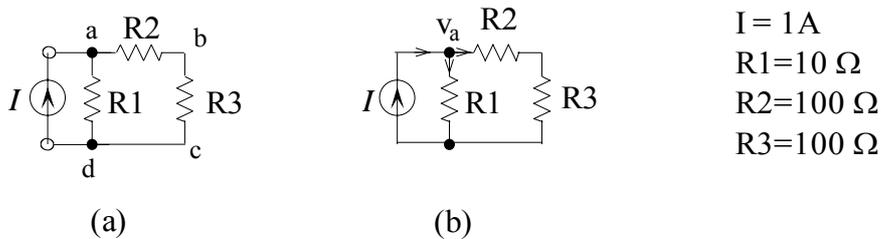

Figure 2.7 Node analysis
Consider the circuit in Figure 2.5(a), with a current source connected across terminals  $a'$ - $d'$ . This circuit is given in Figure 2.7(a) with numerical values assigned to circuit parameters.
2. Define the node voltage  $v_a$  as the potential at node  $a$  minus the potential at node  $d$ , as shown in Figure 2.7(b).